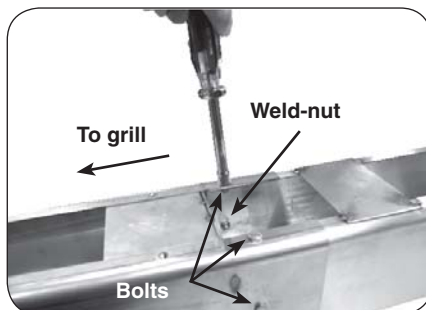

Fig. 14-4 Fasten extension to post
2. From outside the joined post and extension, insert one of the 1/4 X 20"-5/8 bolts (supplied) into each of the five (5) bolt holes and tighten each using a 7/16" socket driver or wrench (see Fig. 14-4).